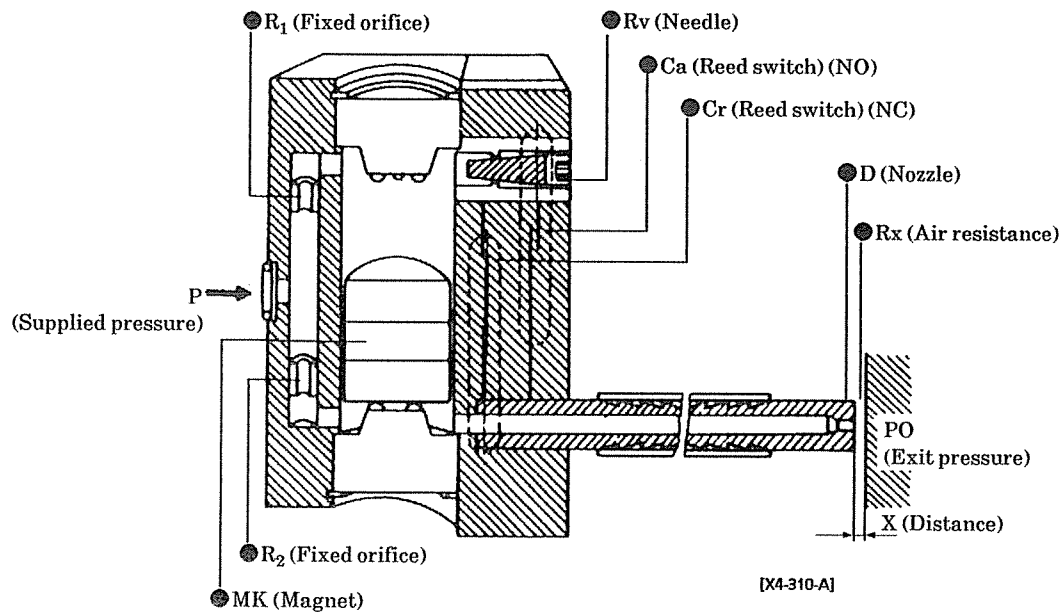
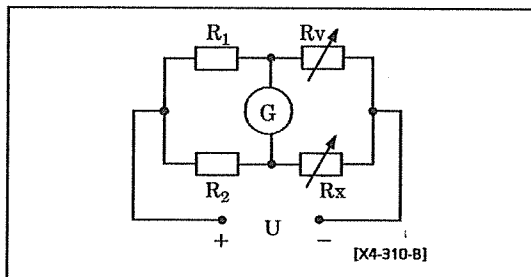
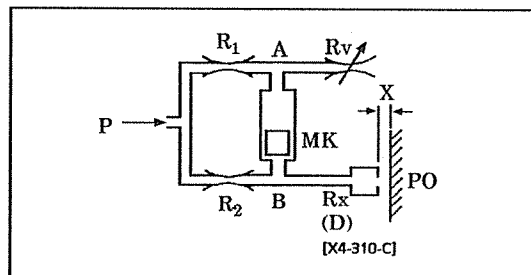

Fig. 1
Fig. 2
Fig. 3
- 2) As it is seen among Fig. 1, Fig. 2 and Fig. 3,